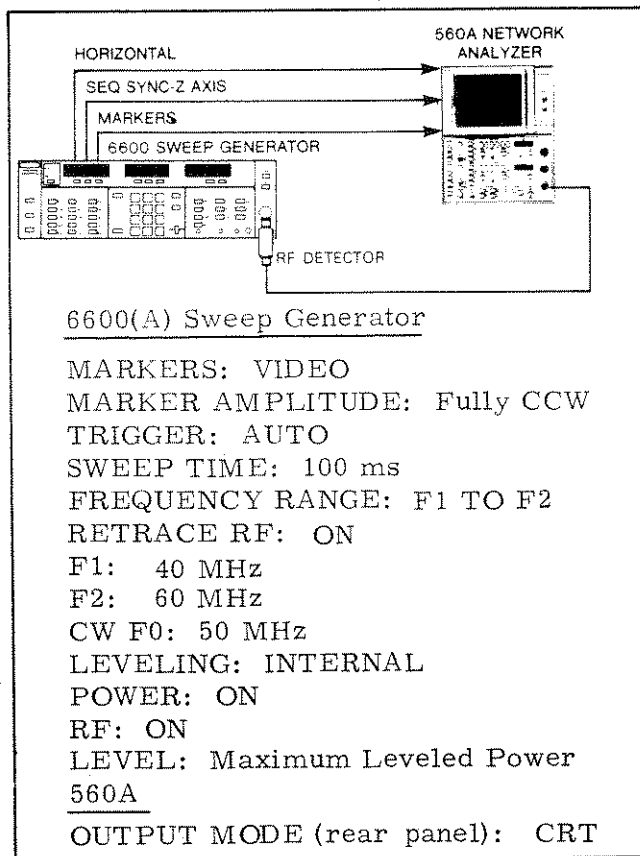

Figure 4-1. Test Setup for Performance Verification
1. Connect test equipment and position sweep generator controls as shown in Figure 4-1.